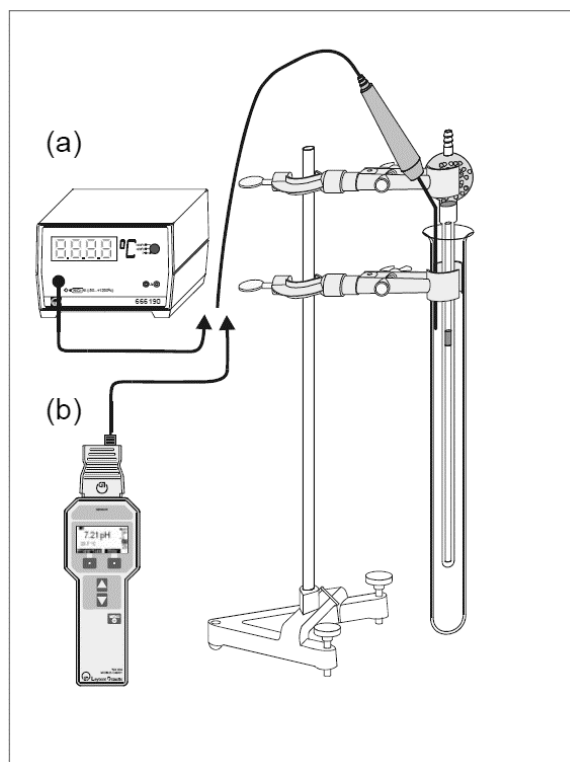

Fig. 23.3. Schematic representation of the experimental setup. Measuring the temperature with the digital thermometer (a) or with Mobile CASSY (b), respectively
3. Mount the gas thermometer in the stand material and the large test tube like shown in Fig. 23.3, and remove the tubing from the gas thermometer.